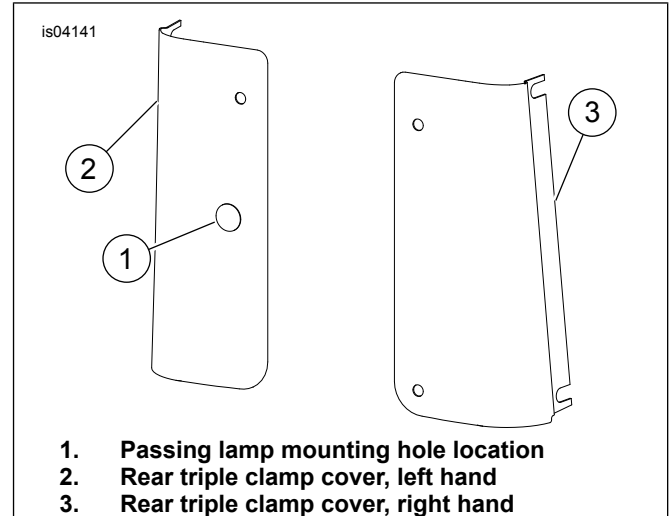

Figure 1. Chrome Fork Side Cover Kit
2. See Figure 1. If so equipped, remove the passing lamp switch from the left hand side triple clamp cover mounting hole (1).